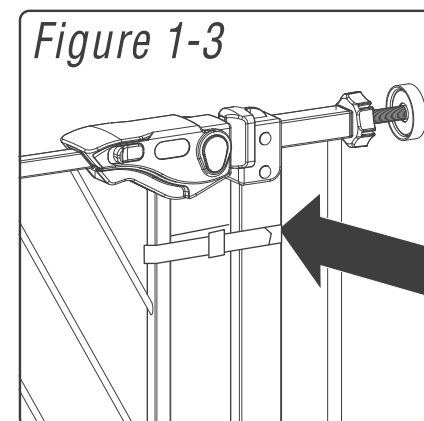

*Figure 1-2*
**NOTE** You may notice a slight gap between the gate door latch and the frame (*Figure 1-2*)